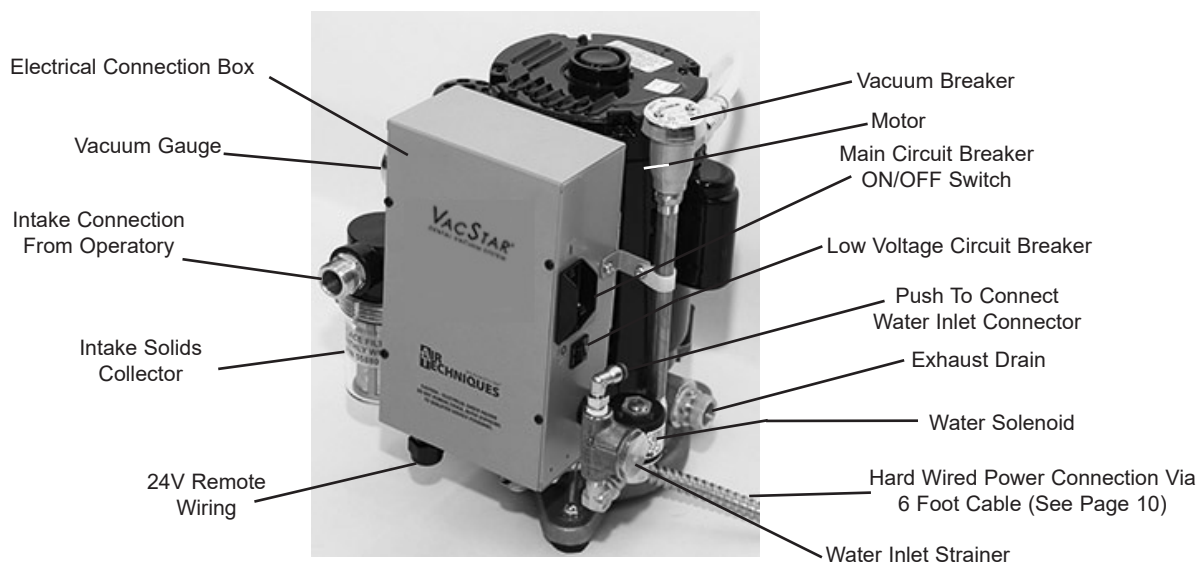

Figure 1. VacStar 20 and 40 Parts Location
- Water connection location is shown in Fig. 1 and 2a (water inlet connection).
- For VacStar 20 and 40, suction hose is connected at suction intake, found on intake solids collector assembly. See Fig. 1.